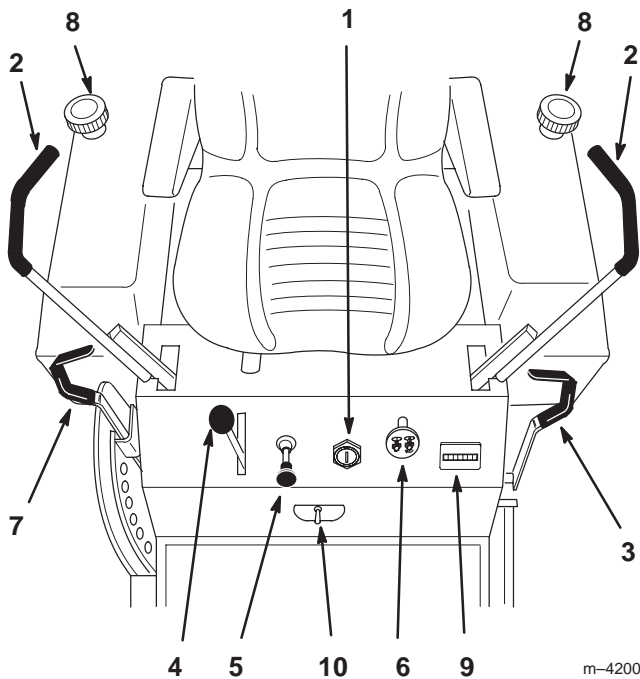

Figure 12
Become familiar with all the controls (Fig. 12) before you start the engine and operate the machine.
1. Move the motion control levers (Fig. 12) out to the neutral lock position.